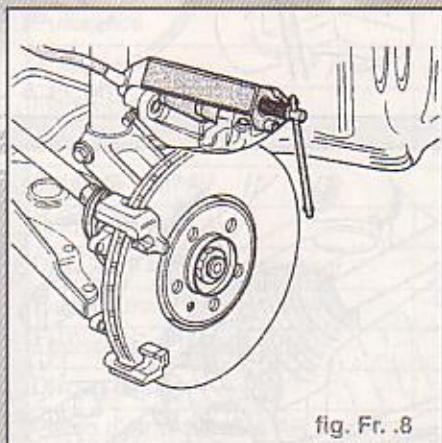

fig. Fr. 8
- Repousser le piston (Fig. Fr. 8).